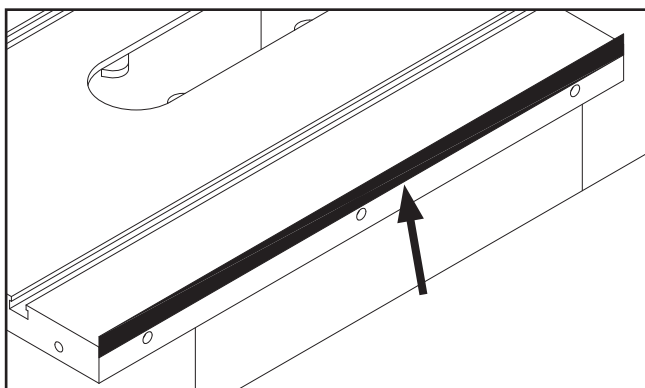

Figure 17. Masking tape location for adjusting the extension wing down.
- If outside end of extension wing tilts up, use strip of masking tape along top edge of main table to shim extension wing down (see **Figure 17**).